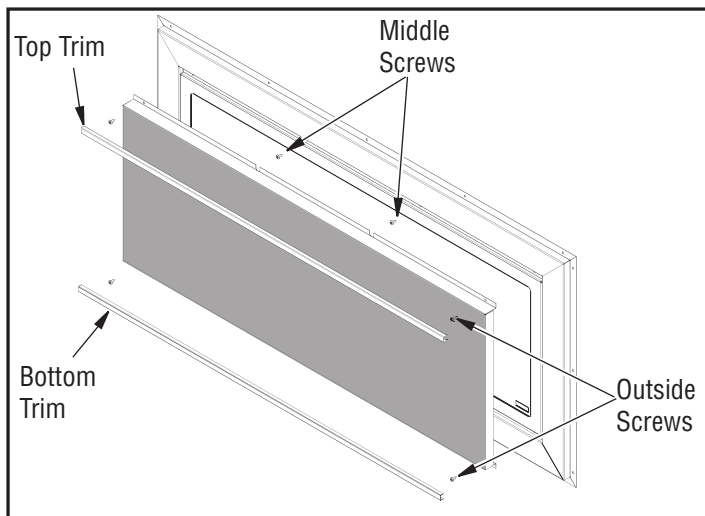

Figure 46 - Removing Exterior Glass Door for Cleaning
1. Using a flat head screwdriver, pop out the top and bottom trim pieces as shown in figure 46.
1. Using a flat head screw driver, pop out the top and bottom trim pieces as shown in Figure 46.